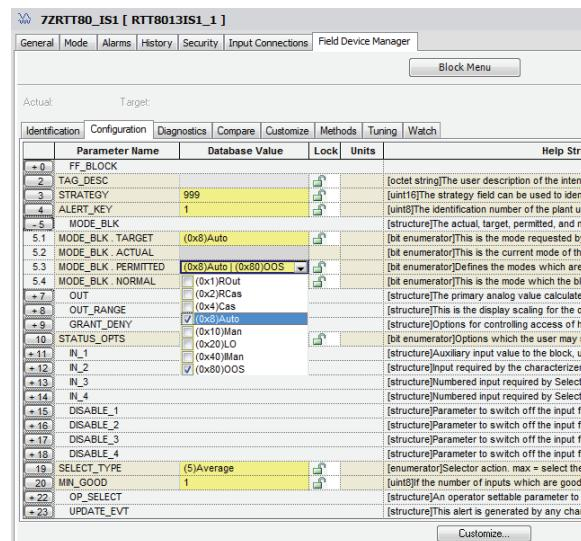

Figure 14. Configuration Tab
- The Configuration tab (Figure 14) is used either off-line or on-line to enter device block parameter settings into the Field Device Manager database, and on-line to download those changes to the device.